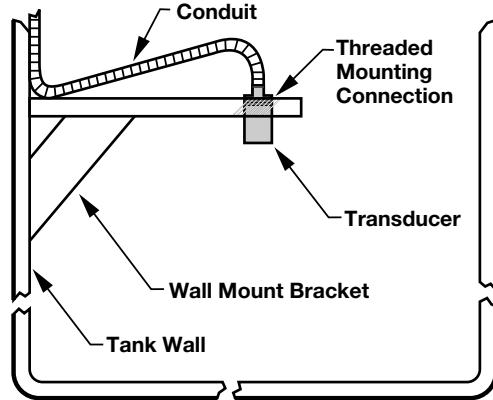

Figure 6
- Position the bracket such that the transducer mounting hole is positioned over the open tank or channel. Refer to Figure 6.